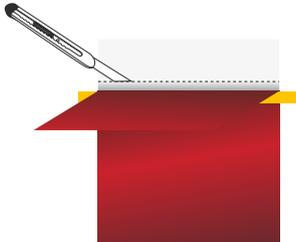

Figure06
- ▶ Retirer 10 cm de liner. (FIG. 06)